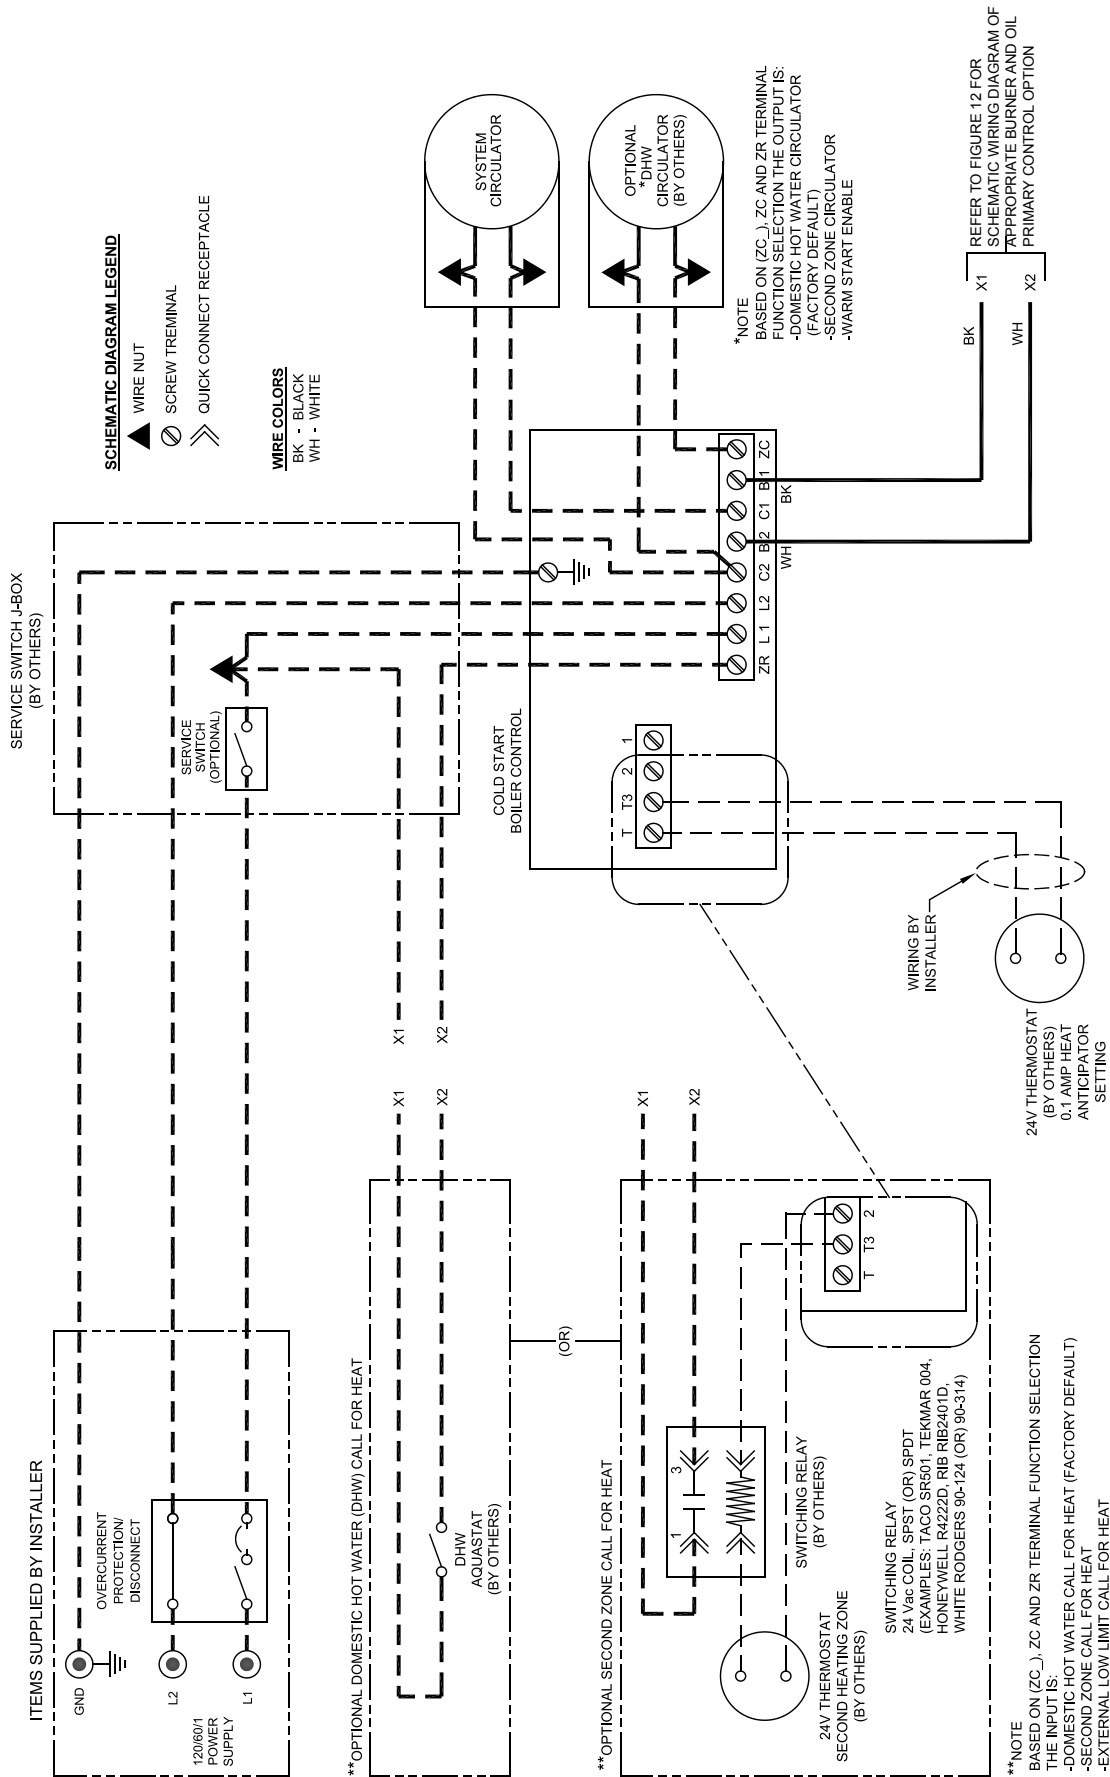

Figure 11a: Schematic Wiring Diagram, without Tankless Heater, Cold Start Control
1. 120 Volt Wiring - The boiler should be provided with its own 15A branch circuit with fused disconnect. All 120 volt connections are made inside the HydroStat relay as follows (see Figures 11a and 11b).
2. Thermostat Wiring - Follow thermostat manufacturer instructions. To insure proper thermostat operation, avoid installation in areas of poor air circulation, hot spots (near any heat source or in direct sunlight), cold spots (outside walls, walls adjacent to unheated areas, locations subject to drafts). Provide Class II circuit between thermostat and boiler. Connect thermostat wire leads to terminals "T" and "T" (see Figures 11a and 11b).